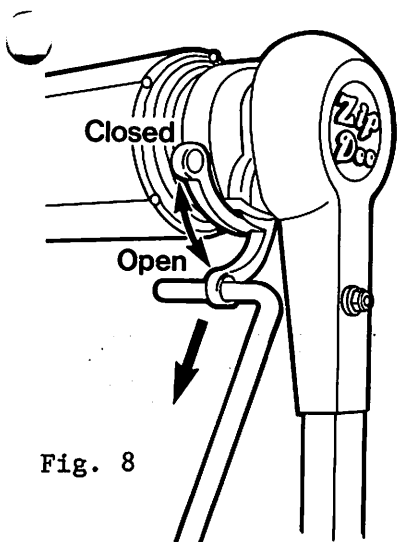

Fig. 8
- Step 1. Insert the pull rod into the Z-lock lever and pull down (Figure 8). This releases the awning.